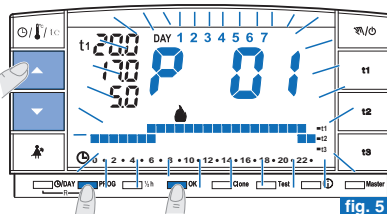

fig. 5
- If, however, you want to select another program (fig. 5), quickly press the **PROG** key (or keys $\blacktriangle$ $\blacktriangledown$) until the display shows the desired program (P02 winter or P03 summer), then press **OK**.